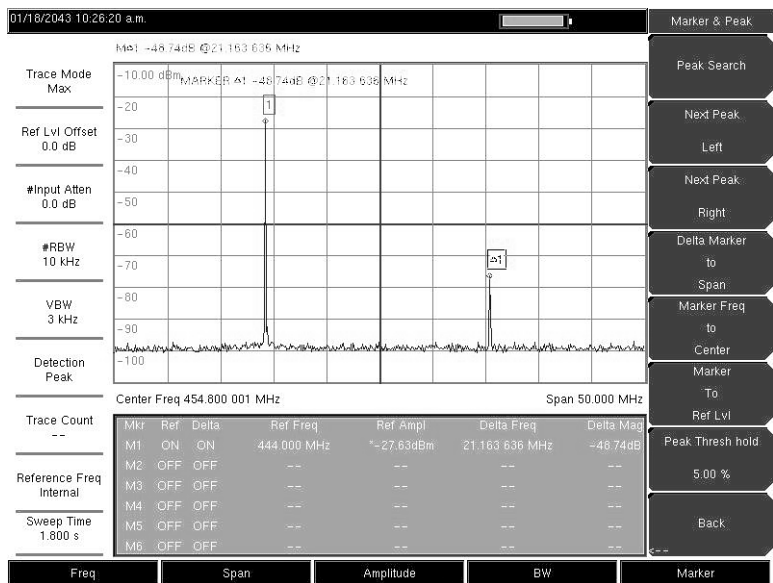

Figure 5-2. Simulated Out-of-Band Spurious Emission Measurement
- Step 10. Repeat Step 8. and Step 9. for the remaining spurs. Use either Marker 1 again, or choose another marker. Figure 5-2 shows a simulated out-of-band spurious signal 21.000 MHz from the carrier using a delta marker.